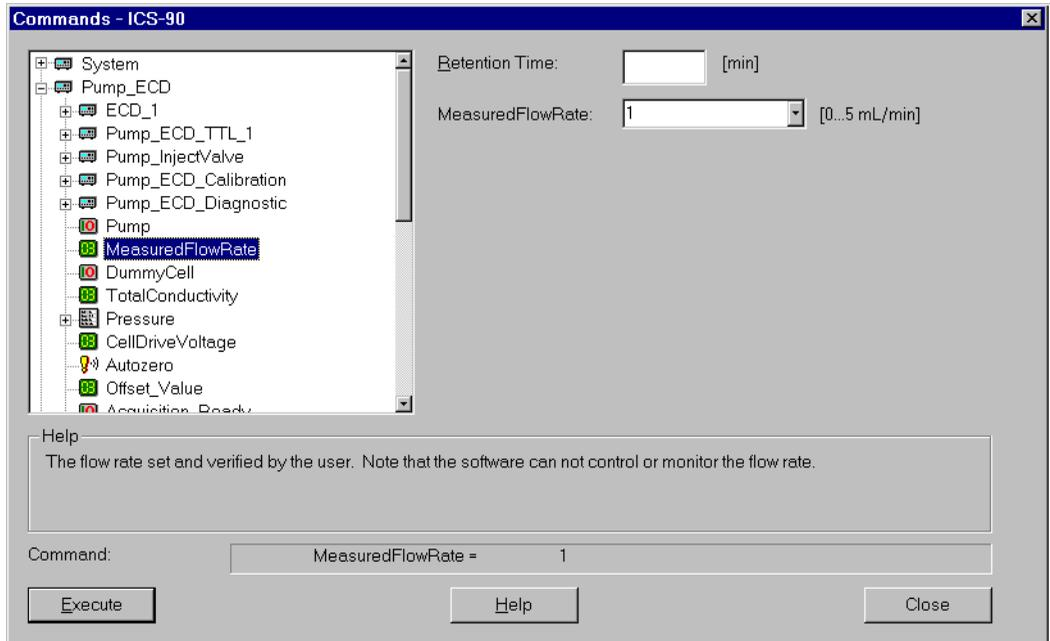

Figure 2-20. ICS-90 Chromeleon Commands: MeasuredFlowRate
2. Expand the **Pump\_ECD** group and select **MeasuredFlowRate** (see Figure 2-20).